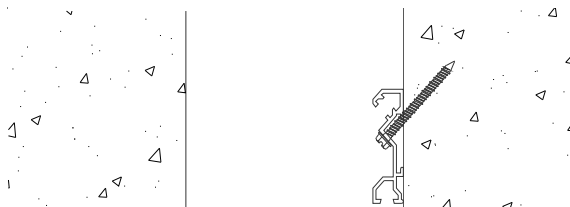

Figure 5
STEP 10. Using the fasteners provided by the factory, attach the base member to the wall (see Figure 5). Ensure that the base member remains properly aligned and level.